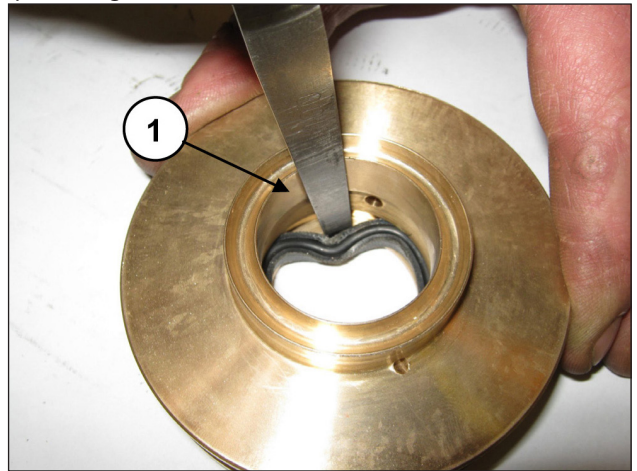

Fig. 174
To remove the low pressure seal, use a thickness gauge or another tool which will not damage the seal support housing (pos. ①, Fig. 174).